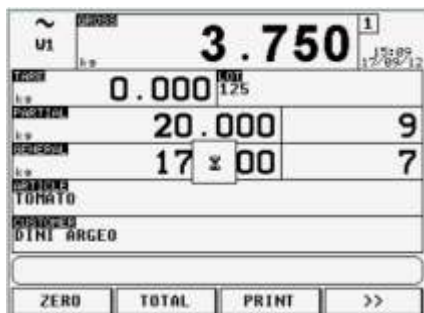

Figure 5. Totalisation underway (loading mode)
3. If the weight is not stable the screen of Figure 5 is displayed